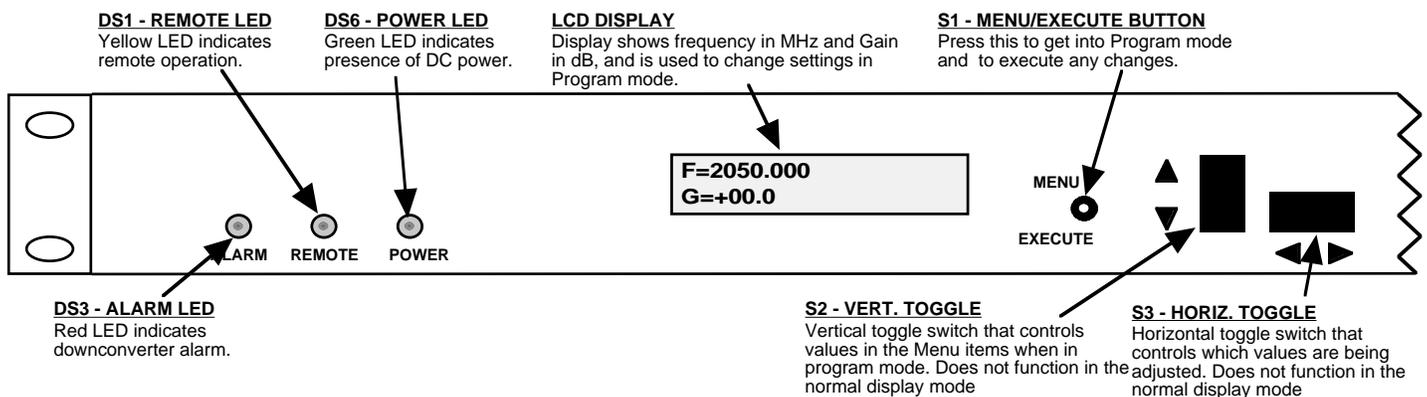

FIGURE 2.3 2016-123 Front Panel Controls and Indicators
- 6.) Be sure DS6 (green, DC Power) is on and DS2 (red, Alarm) is off (Figure 2.3).